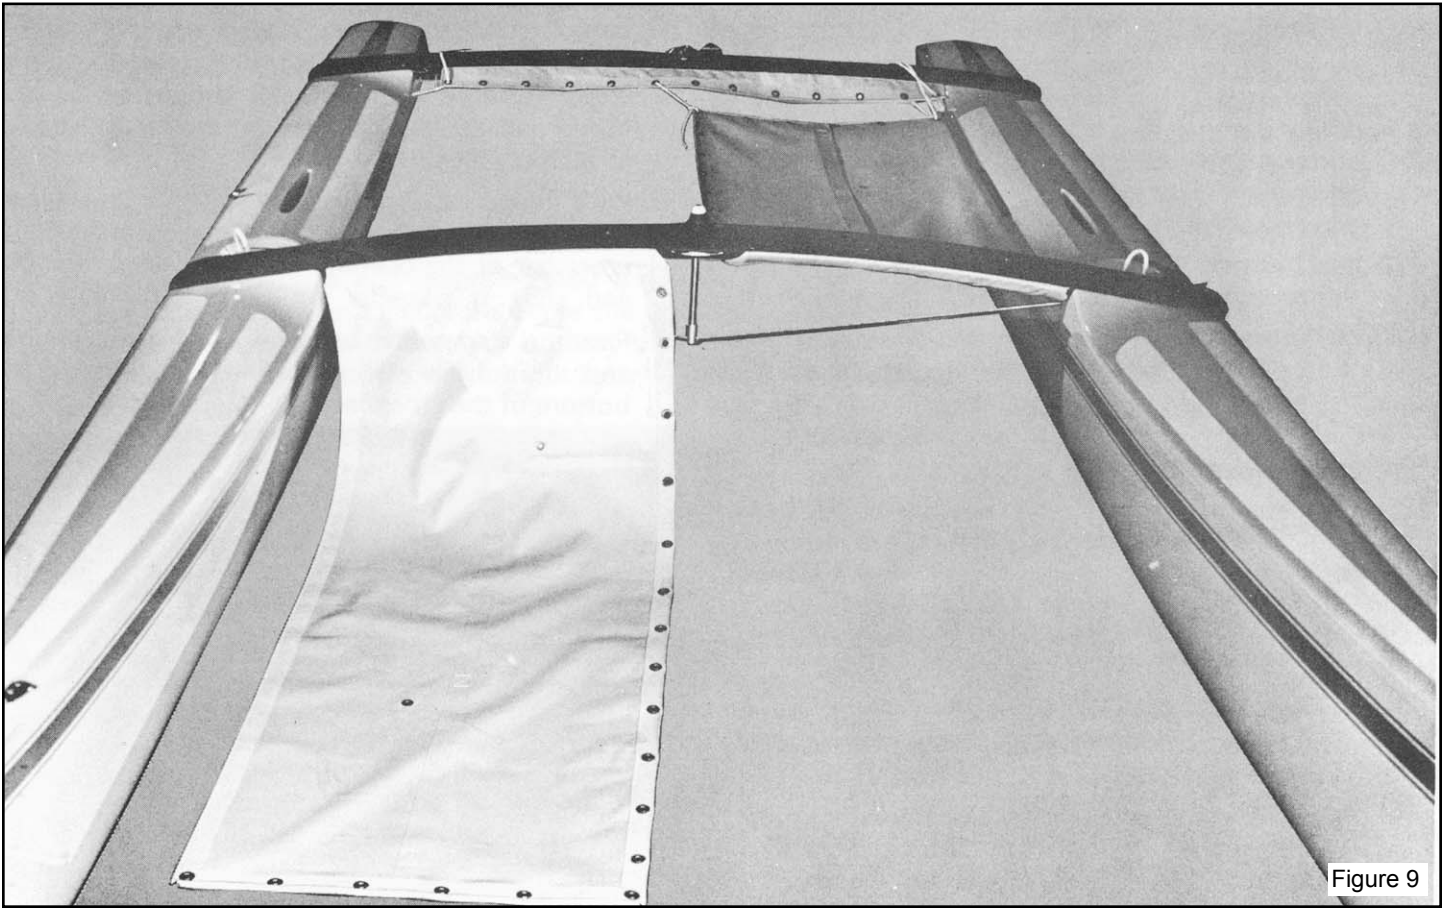

Figure 9
3. With the port trampoline half still face down, lead the short side (without grommets) into the front cross bar at the opening in the center of the bar and slide it over to the hull. See Figure 9